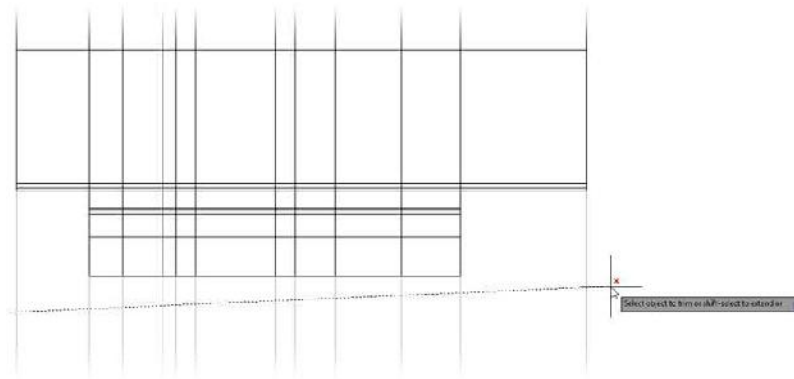

FIGURE 10.11: Trimming the lower construction line extensions by using the Fence option with the TRIM command
6. Draw a fence line along the bottom of your elevation, as shown in Figure 10.11.